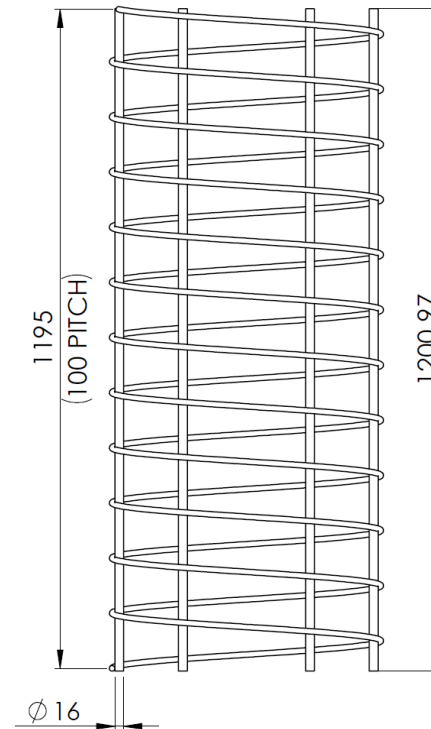

Figure 23
- Terminal Post Foundation Reinforcing Cage – PAL09P400002 (Fig 23)